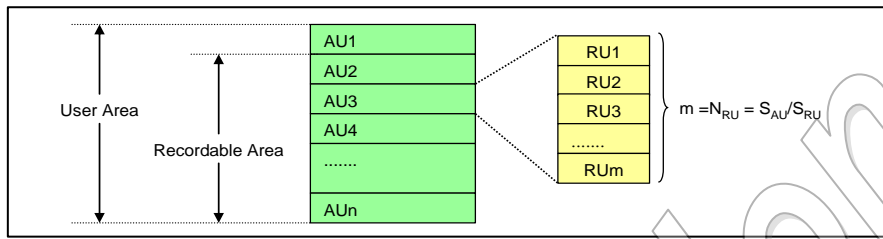

Figure 4-47 : Definition of Allocation Unit (AU)
4.13.1.1 Allocation Unit (AU)
The User Area is divided into units called "**Allocation Unit (AU)**" (Refer to Figure 4-47). AU is physical boundary in User Area of a card and is not defined by the file system boundary. Each card has its own fixed **AU Size (S_{AU})** and the maximum AU Size is defined depending on the card's capacity. The host should manage data areas with the unit of AU. If the first AUs in the card contain file system information
4.13.1.2 Recording Unit (RU)
Each AU is divided into units called "**Recording Unit (RU)**" (Refer to Figure 4-47). The unit of **RU Size (S_{RU})** is 16KByte. The RU Size is a multiple of 16KByte and shall not span across an AU boundary. Larger RU size may improve performance. The condition and requirement of the minimum RU Size is defined by Section 4.13.1.8.1. **The number of RUs in an AU (N_{RU})** is calculated from S_{AU}/S_{RU} .